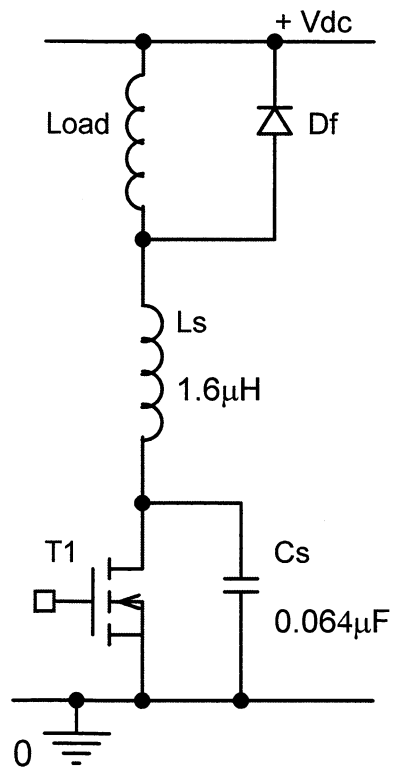

Fig. 1
- (c) A MOSFET chopper circuit is shown in Fig. 1. The switching frequency is 300 kHz, the turn on snubber is $1.6 \mu\text{H}$ and the turn off snubber is $0.064 \mu\text{F}$. If the inductive load current is 10 A, calculate the power losses at turn off. The MOSFET current may be assumed to fall linearly in 100 ns.